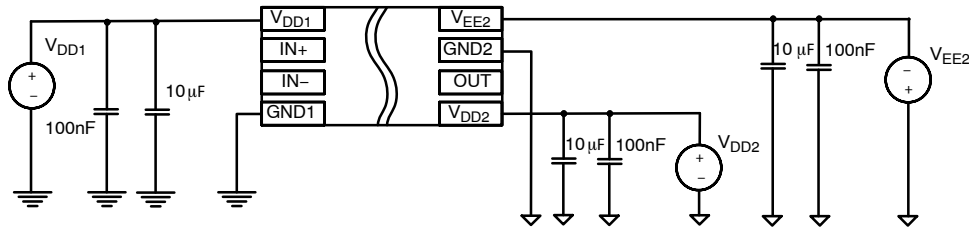

Figure 30. Bipolar Power Supply (NCx5708zB)
- In bipolar power supply the driver is typically supplied with a positive voltage of 15 V at V_{DD2} and negative voltage -5 V at V_{EE2} (Figure 30). Negative power supply prevents a dynamic turn on through the internal IGBT/MOSFET input capacitance